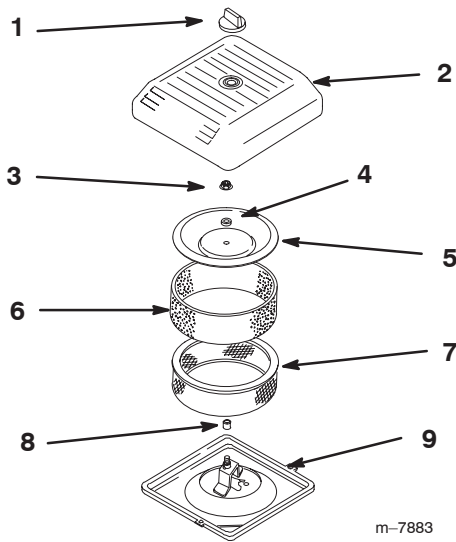

Figure 30
4. Unscrew the knob and remove the air cleaner cover (Fig. 30).
- Carefully slide the foam pre-filter off of the paper element (Fig. 30).
- Unscrew the cover nut and remove the cover, spacer and paper filter (Fig. 30).
- Carefully slide the foam pre-filter onto the paper filter (Fig. 30).
- Place the air cleaner assembly onto the air cleaner base (Fig. 30).
- Install the cover, spacer and secure it with the cover nut (Fig. 30). Torque the nut to 95 in-lb (11 N·m).
- Install the air cleaner cover and secure with the knob (Fig. 30).